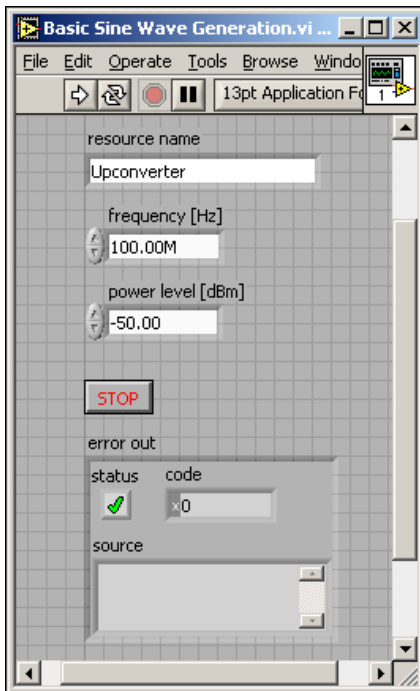

Figure 1-34. Basic Sine Wave Generation VI Front Panel
20. Display the VI front panel by clicking it or by selecting **Window» Show Front Panel**. Verify that your VI front panel looks like the example in Figure 1-34.